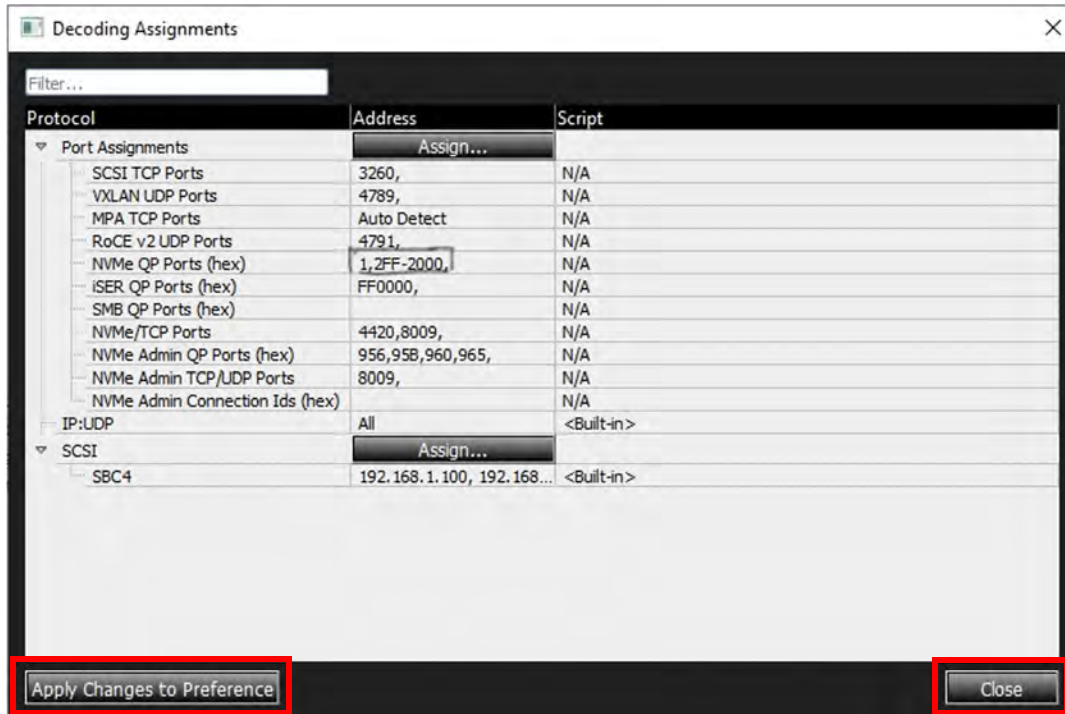

Figure G.10: Large Sequence of NVMe Destination QP Ports Added
- As shown in Figure G.10, 2FF-2000 was added to accommodate a large group of NVMe QP ports so that a larger number of packets will be translated in this trace.